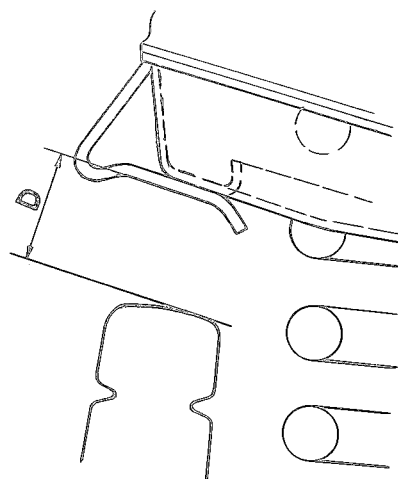

Fig. 6-37. Installation position.
7. Fit the washers and bolts. The small washer at the front bushing and the spring washers on the outside. The bolts are tightened when the control arm is installed and in the position it has when the gap rubber buffer—front axle member (meas. D, Fig. 6-37) is about 30 mm ( $1\frac{1}{8}$ "). Tightening torque 40–50 Nm (4–5 kpm=29–36 lb.ft.).